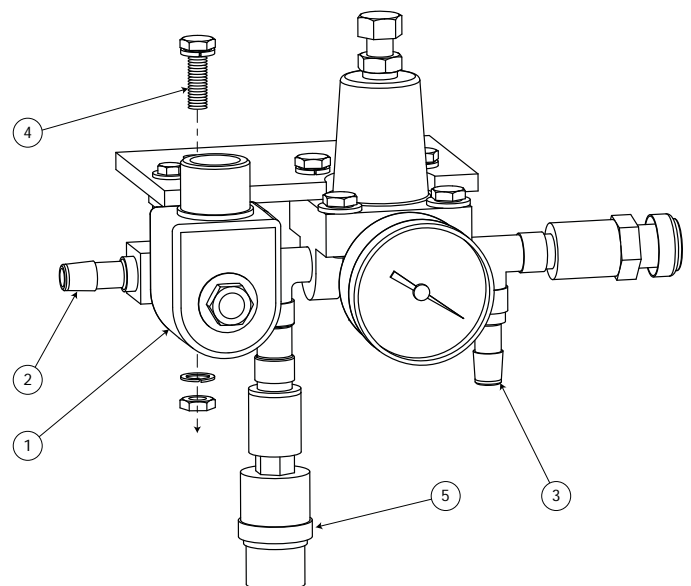

Figure 6. Inlet Air Assembly
### (Figure 6 except as indicated)
- a. Disconnect the air solenoid valve's coil (Figure 6, 1) from the top of the valve stem.
- b. Disconnect the two air hoses from the air assembly's inlet (2) and outlet (3) hose barbs.
- c. Remove the two screws (4) securing the inlet air assembly to the frame and remove the inlet air assembly.
- h. Using the strain relief provided with the upgrade kit, insert the electrical leads from the new air pressure switch (Figure 6, 5) into the control panel through the second hole in the control panel (left open in step II d).